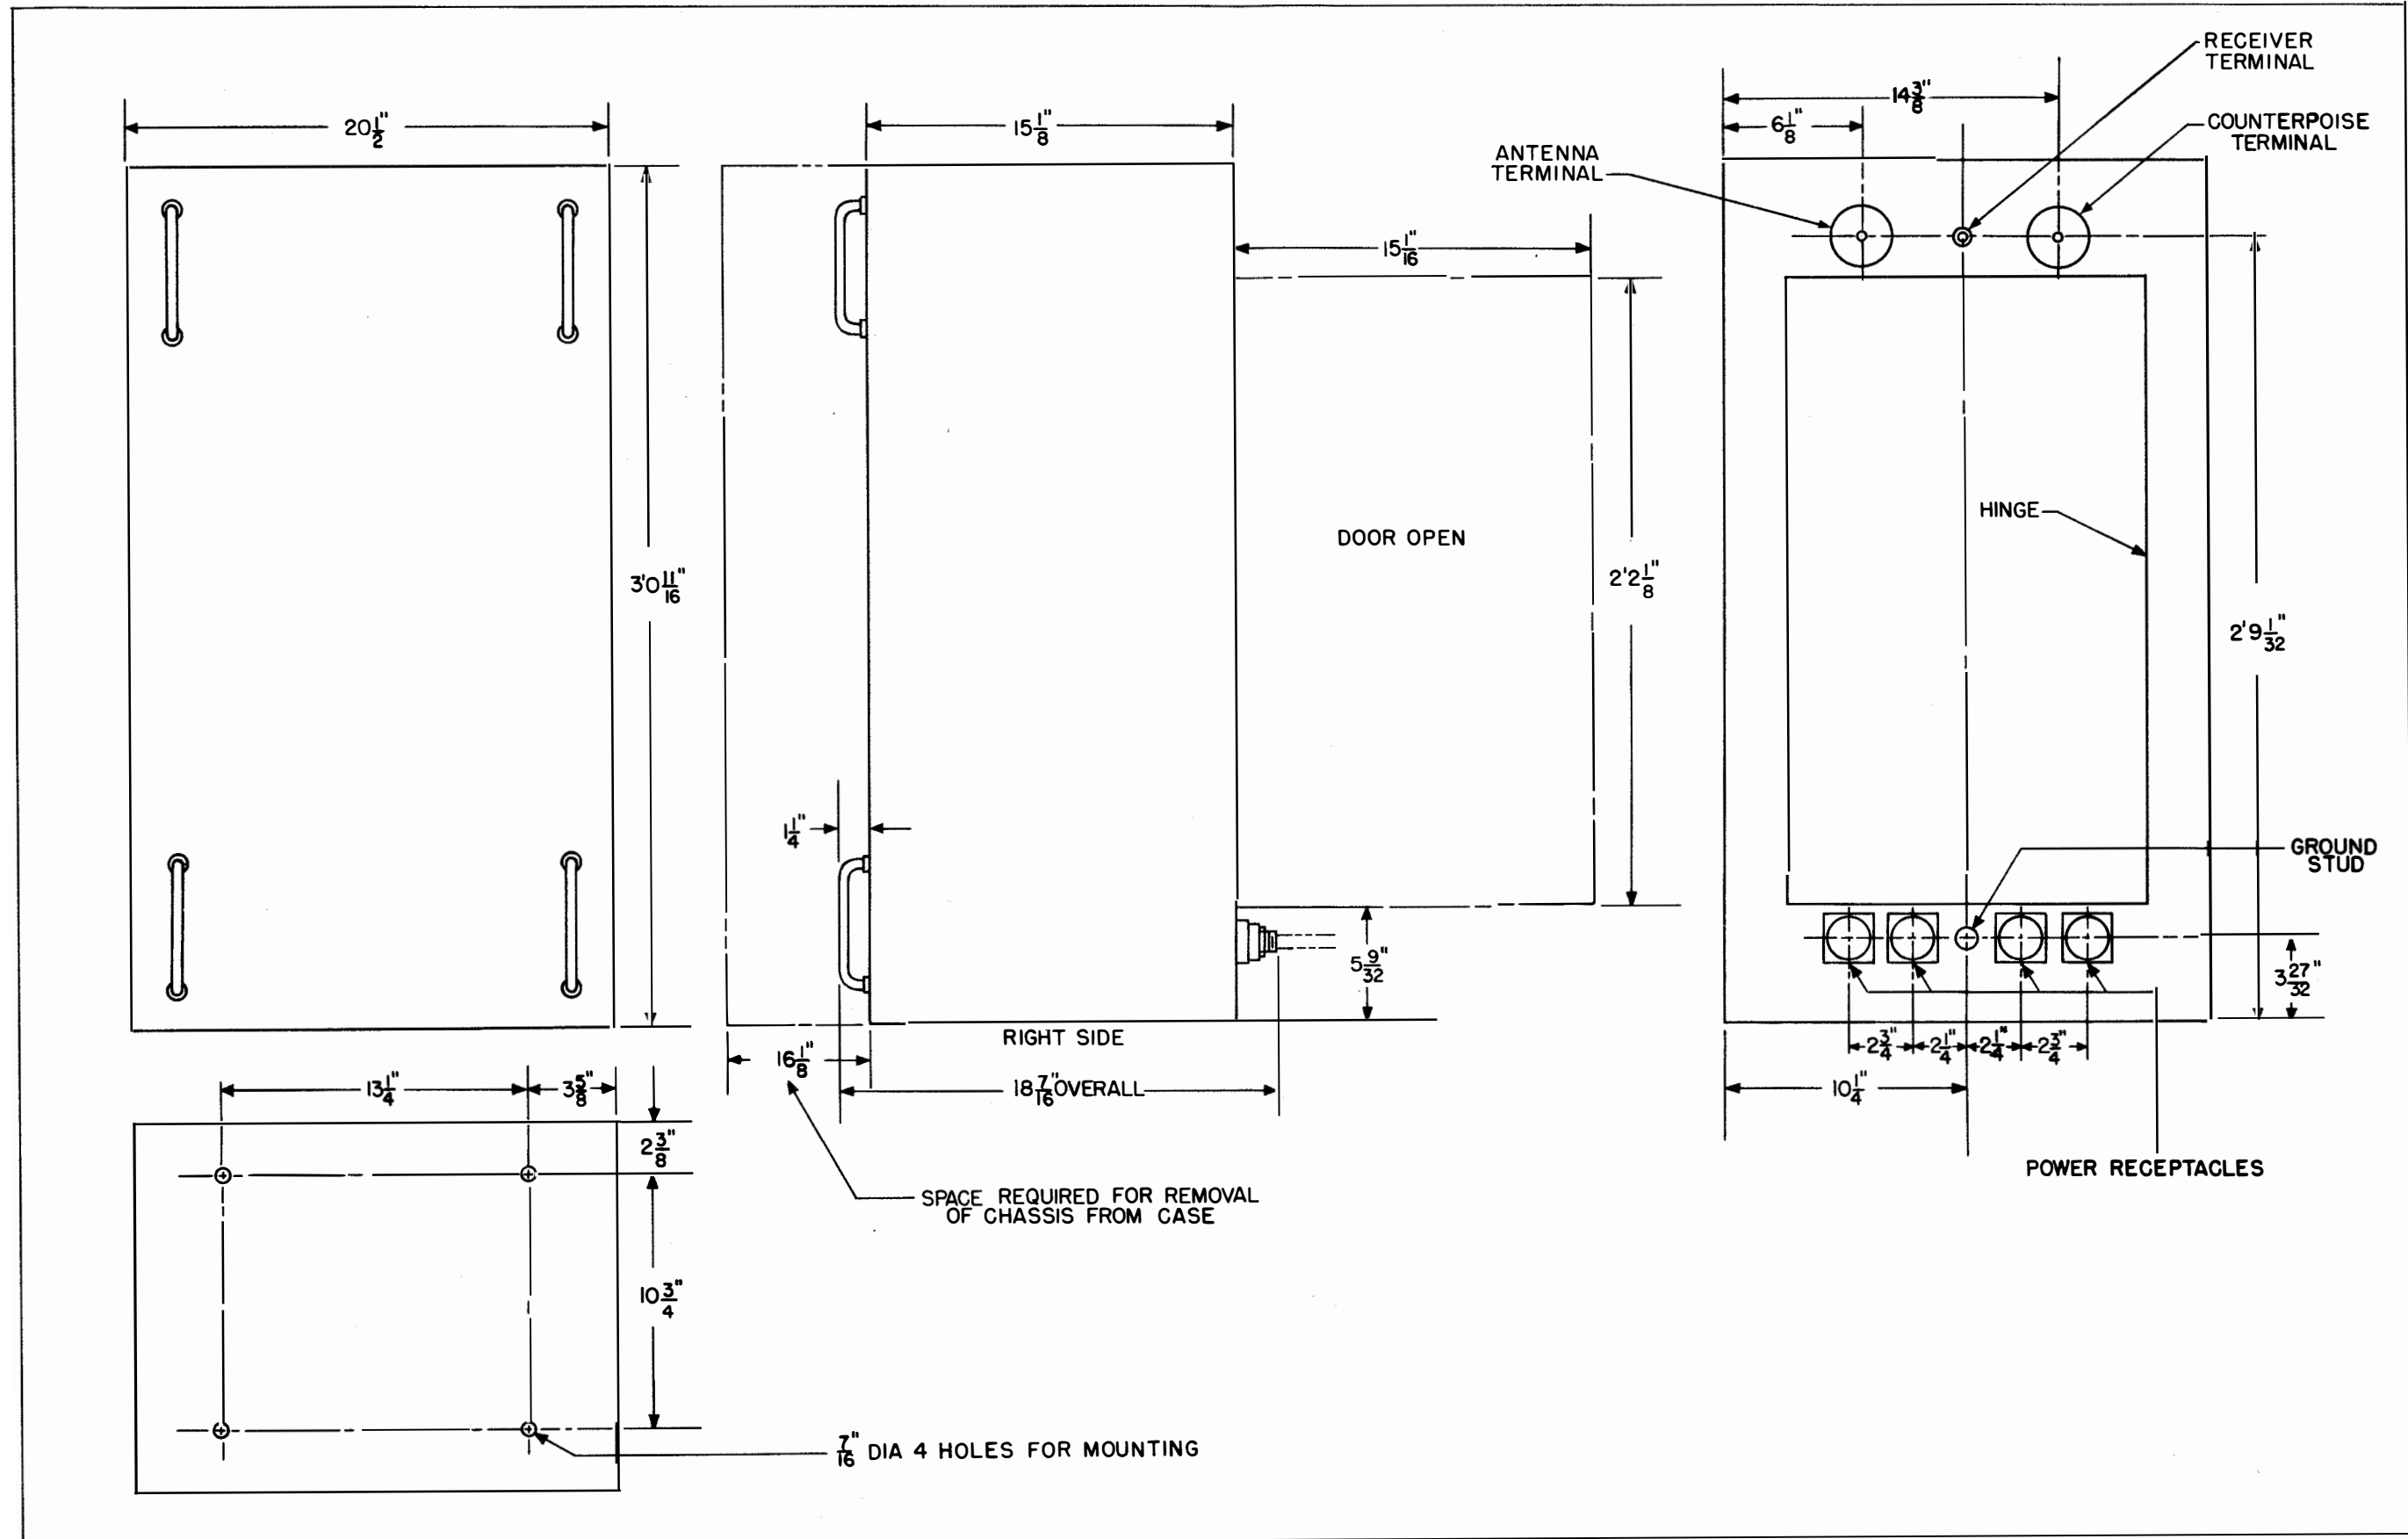

Figure 3-1. Outline Drawing, H-f Radio Transmitter Navy Type CG-52206
(1) Models TCM, TCM-1 and TCM-2 consist of H-F Transmitter Navy Type CG-52206, Rectifier Navy Type CG-20122 and Control Unit Navy Type CG-23241. (See figures 3-1, 3-2 and 3-3.)
(2) Models TCN and TCN-1 consist of H-F Transmitter Navy Type CG-52206, I-F Transmitter Navy Type CG-52205, Rectifier Navy Type CG-20122, Power Transfer Switch Navy Type CG-24094 and Control Unit Navy Type CG-23241. (See figures 3-1, 3-2, 3-3, 3-4 and 3-5.)